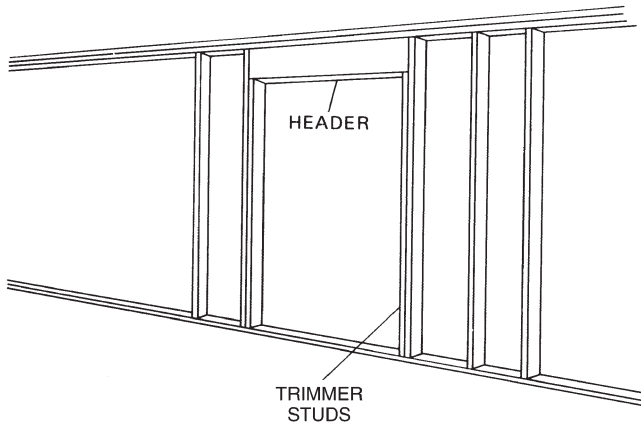

Fig. 9-34 Placement of the jack studs. (Andersen.)
3. Cut the jack or trimmer studs to fit under the header for support. Nail the jack or trimmer studs to the regular studs (Fig. 9-34).